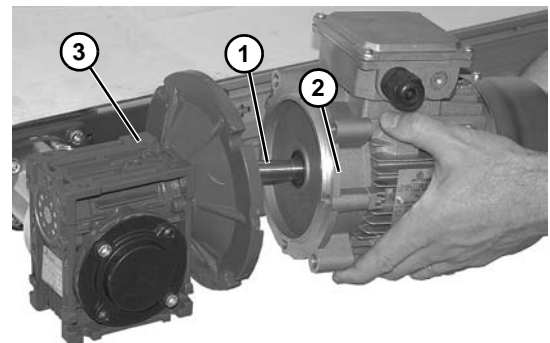

Figure 25
5. Apply anti-seize to motor shaft before assembling to gearbox. With key (Figure 25, item 1) in keyway, slide motor (Figure 25, item 2) and gear reducer (Figure 25, item 3) together.